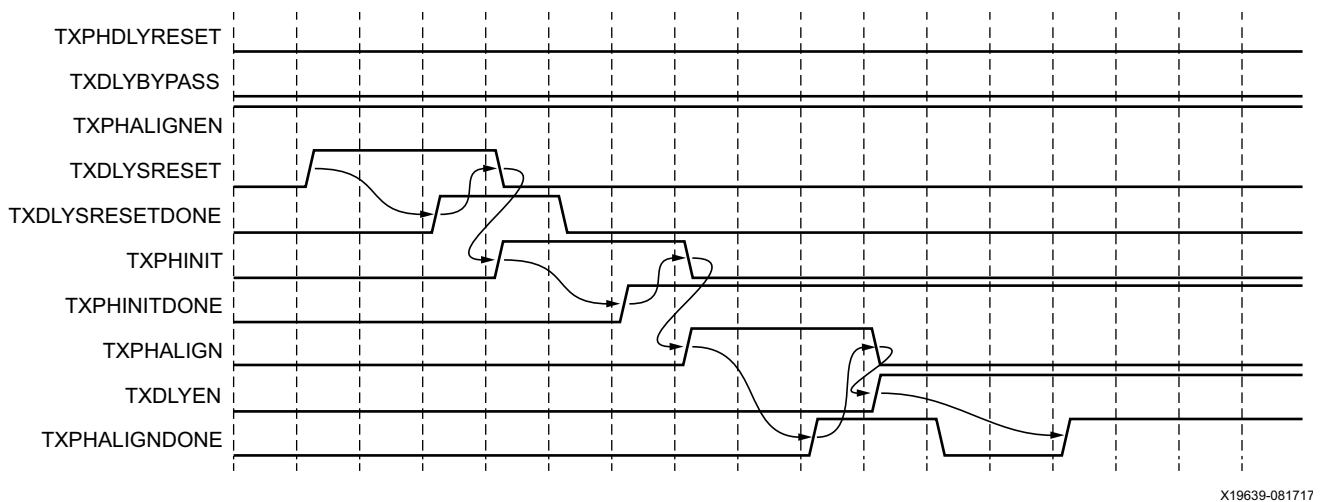

Figure 3-20: TX Buffer Bypass Example—Single-Lane Manual Mode
Figure 3-20 shows the required steps to perform the manual TX phase alignment and use the TX delay alignment to adjust TXUSRCLK to compensate for temperature and voltage variations.
Notes relevant to Figure 3-20:
1. The sequence of events in Figure 3-20 is not drawn to scale.